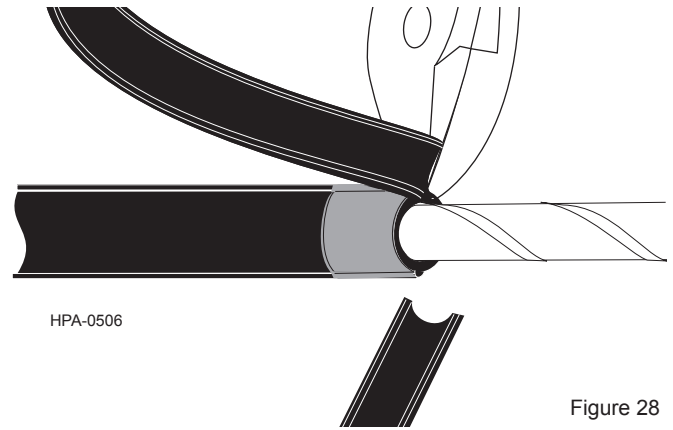

Figure 28
5.8 Using care to avoid damaging the cable core, use side cutters or scissors to trim off the split sheath sections at the tape wrap (Figure 28).